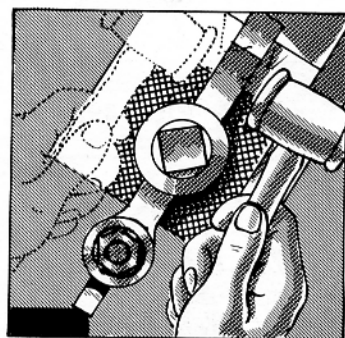

FIG. 389
16. Adjust the tool holder by loosening the tool post screw slightly and tapping the tool holder to the right or to the left until the cutting edge of the tool is parallel with the scribed line on the work (Fig. 389).